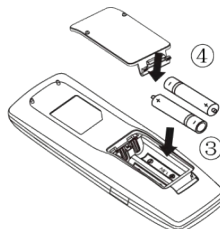

Fig.2
- (3). Place two 7# (AAA 1.5V) dry batteries, and make sure the position of "+" polar and "-" polar is correct (as shown in Fig 2 ③).
- (4). Reinstall the cover (as shown in Fig 2 ④).